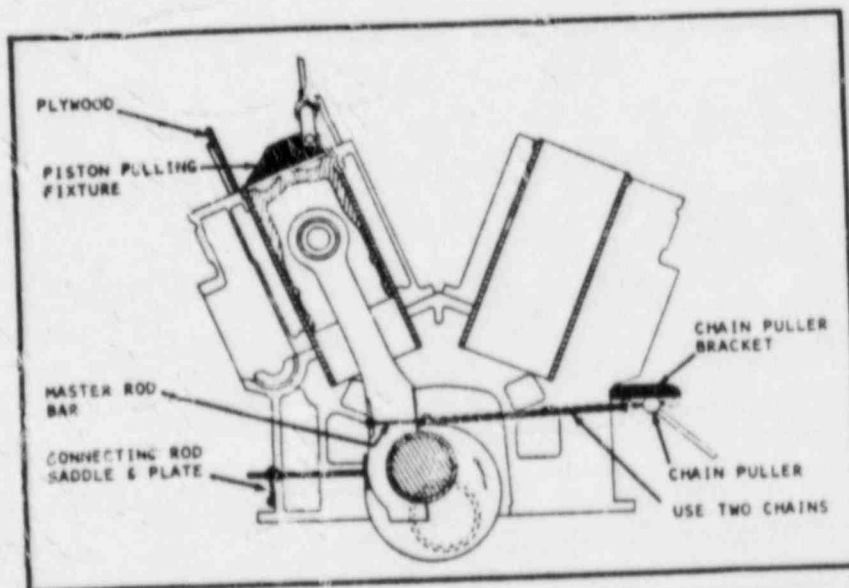

Figure 6-C-5. Tools Installed For Piston and Master Rod Removal
- g. Remove connecting rod bolts and rod-to-box bolts (see figure 6-C-1) then slack off on chain puller, allowing link rod box to swing clear of crankpin.